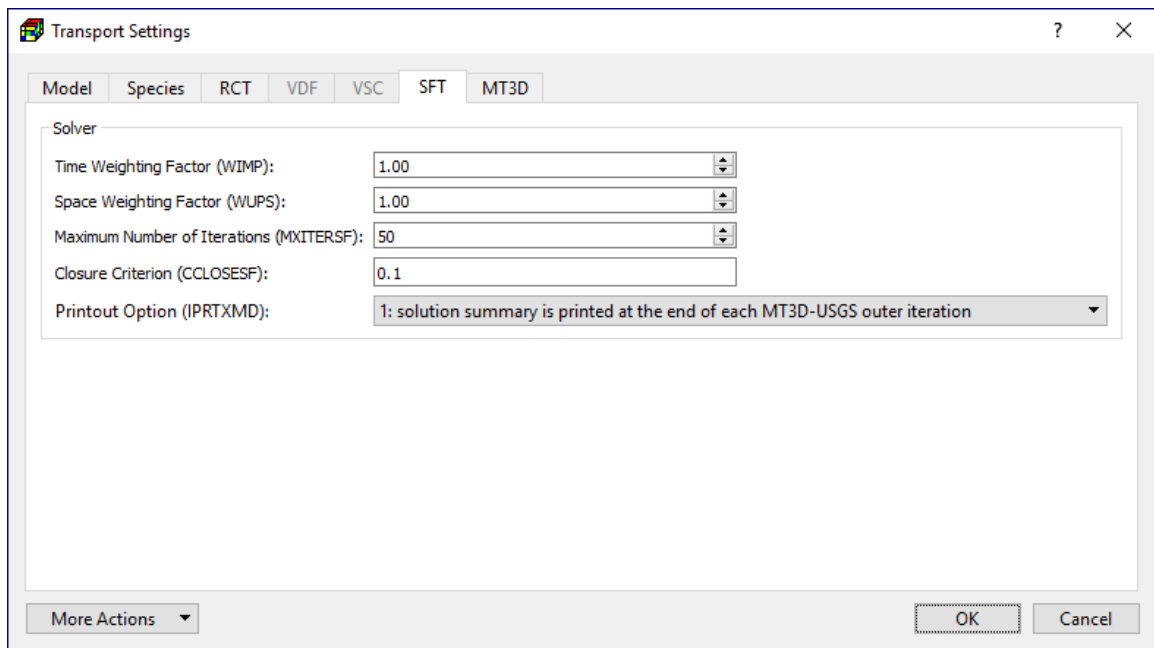

Figure 101. The SFT tab of the Transport Settings dialog box
7. **SFT Tab** (Figure 101) contains options for the Streamflow Transport (SFT) Package of MT3D-USGS.